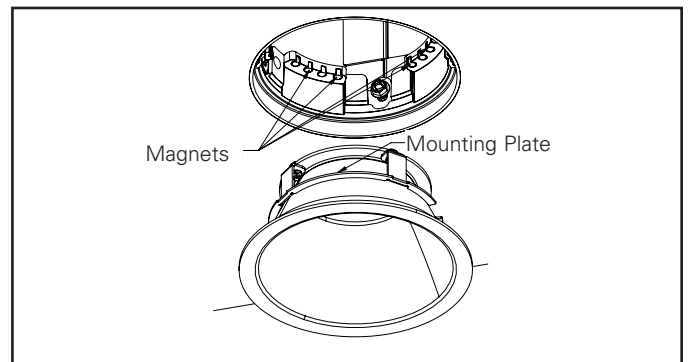

Figure 19.
For wall wash trims, the optimal condition is 15-degrees tilt angle and 70-degree optic, and for double wall wash title angle should be 0-degree (Figure 19).
6. Align mounting plates with magnets and place trim against ceiling (Figure 19).